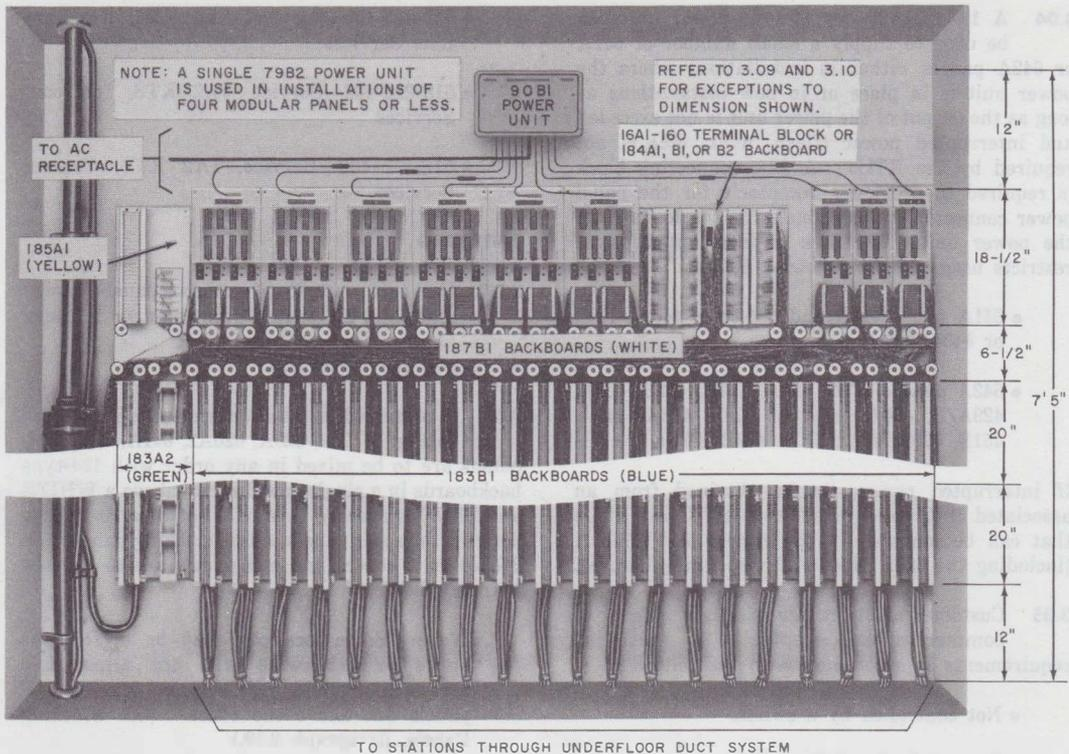

Fig. 7—Centralized Terminal Field, Typical Arrangement of Modular Apparatus
3.08 A preferred installation method is illustrated in Fig. 7. The 620A, 620A2, 641A, and 642A panels are to be mixed in any order with 184-type backboards in a single row directly above a WHITE and BLUE backboard field. Do not leave any space between adjacent panels unless stacking panels (see *Note*) or if covers and end panels are to be used (paragraph 3.09).
3.09 A recommended sequence for mounting modular panels, backboards, and power units is as follows (see Fig. 7):
◆**Note:** The 16A1-160 terminal blocks or 184A1, B1 or B2 (RED) backboards may also be intermixed with modular panels as desired to provide station terminations in excess of the panel terminal capacity (see Fig. 7 or 8). The 16A1-160 terminal block is the same height as the modular panels and half the width of a 620A panel. Two connecting blocks are provided which duplicate the designations and quadrants of a 620A panel. If required, the terminal blocks will accept 152A covers and 153A end caps.◆